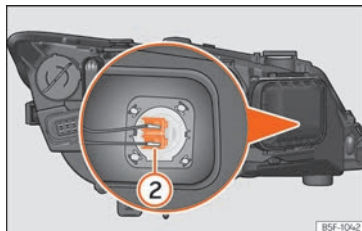

Fig. 112 Main beam headlight bulb.
- Slide connector »» Fig. 112 ② to the left or right and pull.